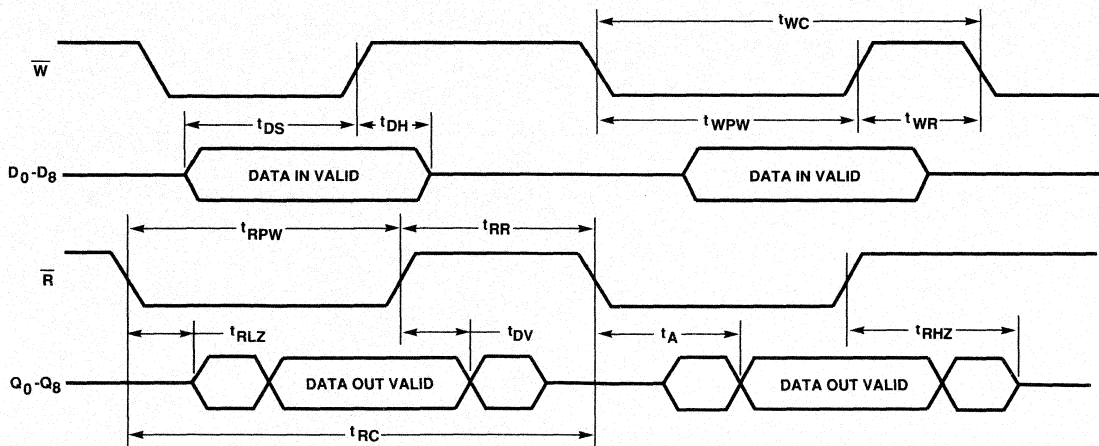

Figure 3. Asynchronous Write and Read Timing
The HIGH state of the Full Flag ( $\overline{FF}$ ) indicates that the FIFO is capable of accepting data. The falling edge of Write (W) initiates a write cycle. (See Figure 3.) Data appearing at inputs D0-D8  $t_{DS}$  prior to and  $t_{DH}$  after the rising edge of W will be stored sequentially in the FIFO.
The HIGH state of the Empty Flag ( $\overline{EF}$ ) indicates that the FIFO is ready to output data. The falling edge of Read (R) initiates a read cycle. (See Figure 3.) Valid data appears on the outputs Q0-Q8  $t_{x}$  after the falling edge of R, and remains until  $t_{dV}$  after the rising edge of R. Q0-Q8 return to a high-impedance state when a valid read is not in progress.